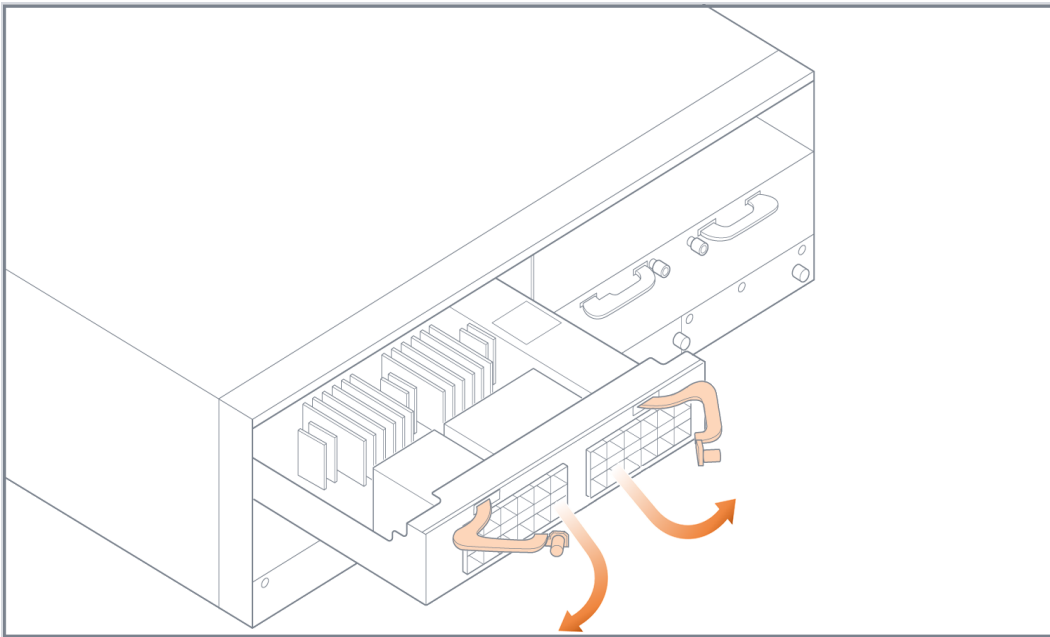

Figure 11: Module Levers
1. Pull out the two levers at the top of the module as shown in Figure 11: Module Levers on page 67.